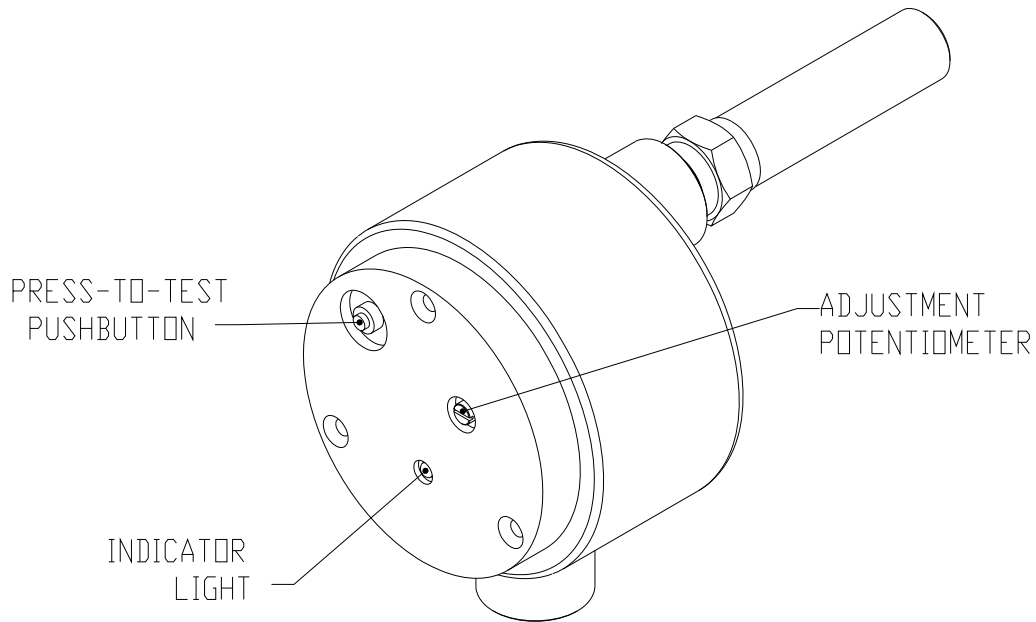

Figure 3.4: Location of Adjustments and Controls
- 3.6 Calibrate the Kasichek unit using the procedure which follow. Two different procedure are described, one for very low speed machines operating at 20 RPM or less and one for higher speed machine operating at speeds above 20 RPM. Use the procedure that applies to your particular machine. See Figure 3.4 for location of controls and indicators.